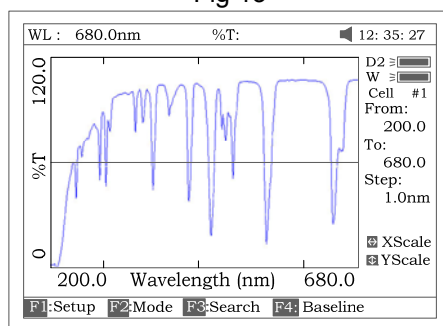

Fig 14
1. The key [ENTER] be pressed, the file selected will be loaded and displays on the screen. (Fig 14).
- ◇ Press the key **[SAVE]** in Fig14 to save curve.